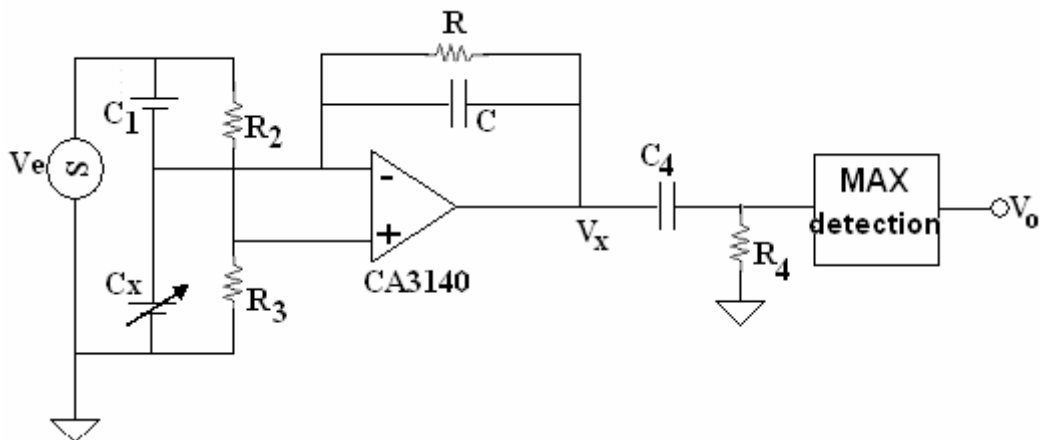

Figure 5
3. The circuit in figure 5 is the signal conditioner for a capacitive level sensor that has  $C_{min} = 41.46\text{PF}$ ,  $C_{max} = 87.07\text{PF}$  & sensitivity  $0.19\text{PF/L}$ . Design the circuit components to obtain a frequency independent voltage that is 0V for the empty tank and 1V for the full tank. [16]